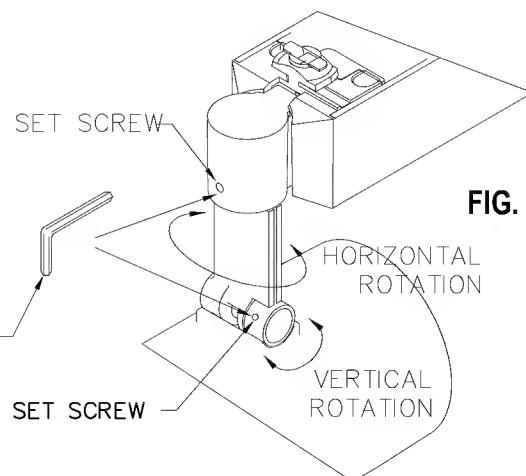

FIG. 8
2. Adjust VERTICAL and HORIZONTAL aim (FIG. 8).